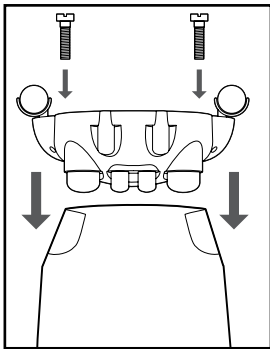

FIGURE 2
3. Take rear caster dolly and place into slots (on rear of tank, opposite of inlet) and secure with screws provided. **(FIGURE 2)**